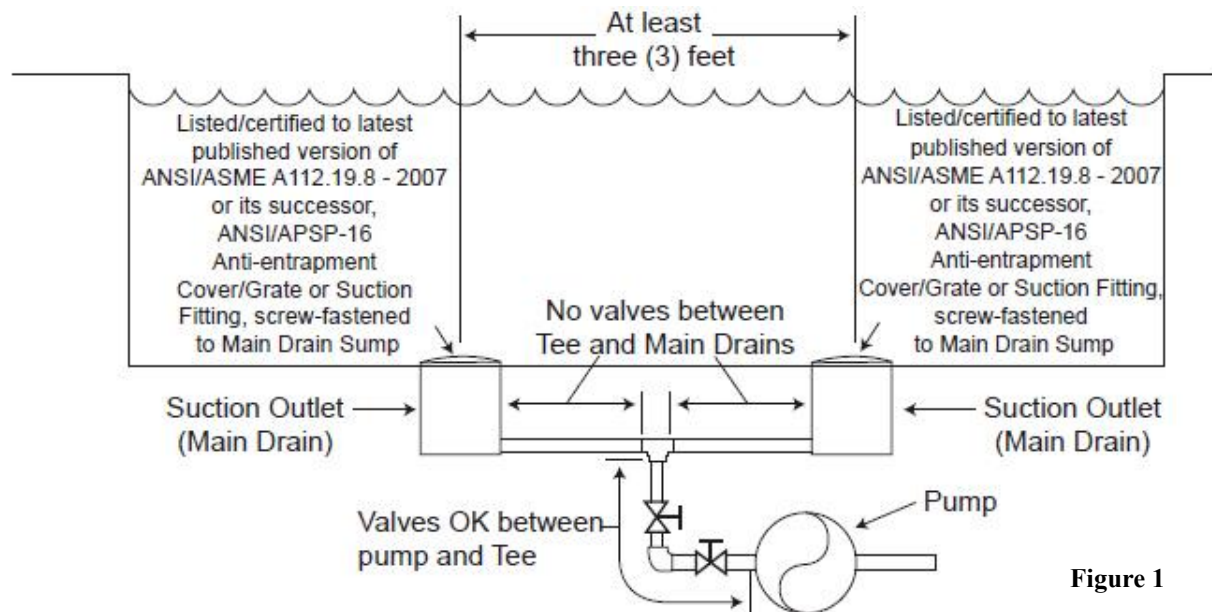

Figure 1
**Number of Suction Outlets Per Pump** - Provide at least two (2) hydraulically-balanced main drains, with covers, as suction outlets for each circulating pump suction line. The centers of the main drains (suction outlets) on any one (1) suction line must be at least three (3) feet apart, center to center. See Figure 1.
The system **must** be built to include at least two (2) suction outlets (drains) connected to the pump whenever the pump is running. However, if two (2) main drains run into a single suction line, the single suction line may be equipped with a valve that will shut off both main drains from the pump. The system shall be constructed such that it shall not allow for separate or independent shutoff or isolation of each drain. **See Figure 1.**